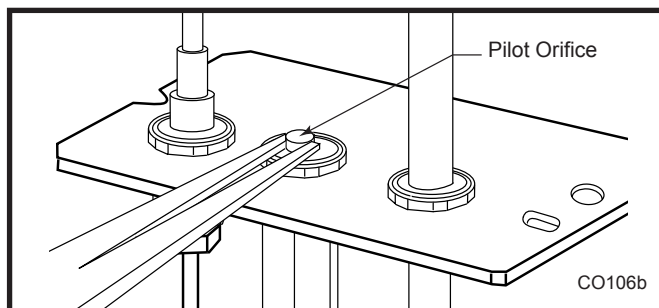

Fig. 56 Remove pilot orifice.
- Remove pilot orifice with needlenose pliers. (Fig. 56) **NOTE:** Use a wrench to hold pilot tube in place while removing the orifice.
2. Lift the Stove Front up and then swing the bottom out to disengage it from the heater shell. (Fig. 56)